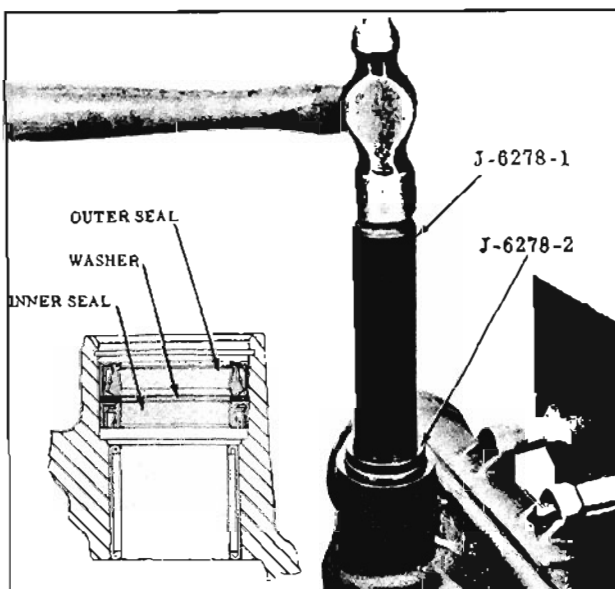

Fig. 8-65 Installing Oil Seals
- b. Drive the seals into the housing until the top of Adapter J-6278-2 is flush with the housing. (Fig. 8-65)
- d. Reinsert Tool J-6278-1 with Adapter J-6278-2 and continue driving the seals until the retaining ring seats in its groove (inset, Fig. 8-65), then remove the tool and adapter.